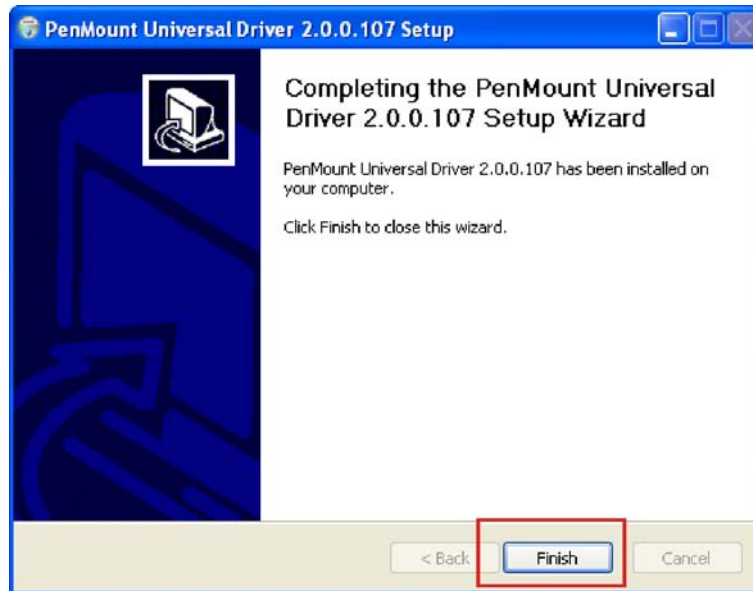

Figure 6-26: Create Shortcut Wizard
Step 10: The InstallShield Wizard Completed window appears (Figure 6-26).
Step 11: The touch panel drivers are now installed. Click **FINISH** to complete the installation process and exit the touch panel driver installation wizard (Figure 6-26).